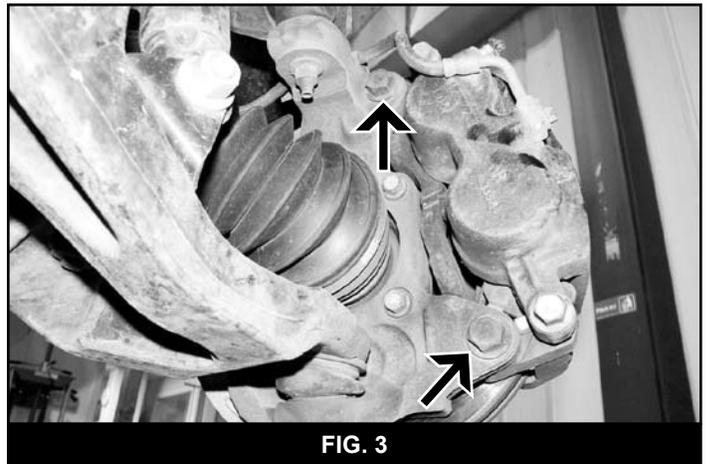

FIG. 3
18. Remove the brake caliper anchor bracket bolts and pull the caliper free from the steering knuckle and rotor (Fig 3). Hang the caliper securely out of the way. Retain caliper mounting hardware. Remove the brake rotor from the hub. **Note:** Do not allow the brake caliper to hang from the brake hose.